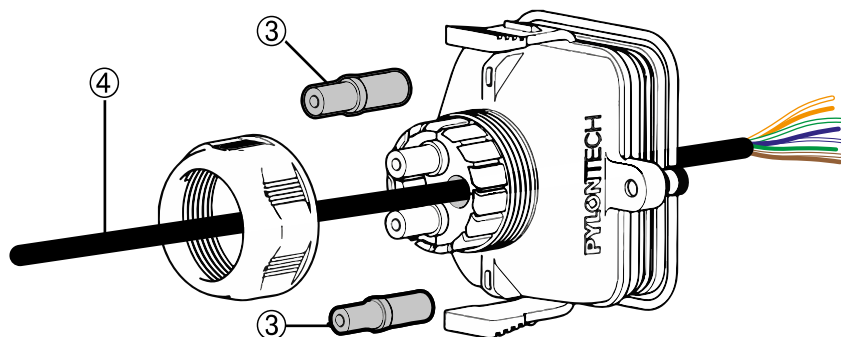

Fig. 2.11 - cable hole
- Take out the rubber plug(s) from the rubber pad (3, Fig. 2.11);
- Insert the communication cable into the hole (4, Fig. 2.11);